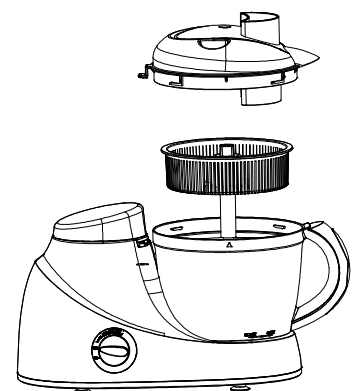

Fig.7
c) Place the lid for centrifugal juicer on the bowl and turning it clockwise until you hear it clicks into position. The spur on the lid sticks out of the base of the lid-locking slot (see fig.7).